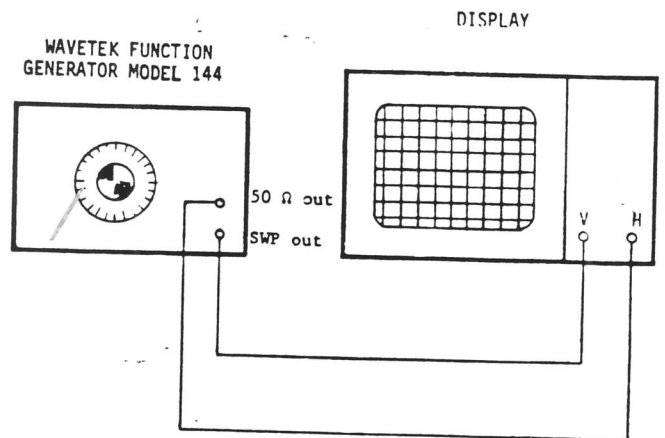

Figure 5-4. Horizontal Gain Check Setup
2. Make connections as shown in Figure 5-4.